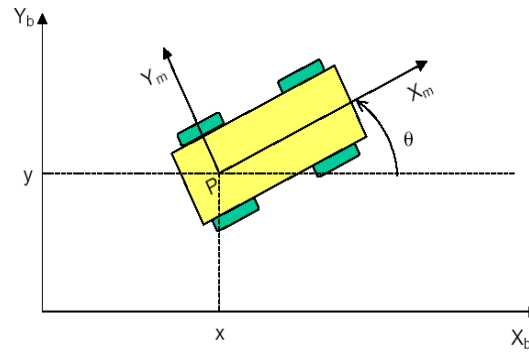

Figure Q3[c]
- [c] Figure Q3[c] shows the differential type wheeled mobile robot. Develop the kinematic model for world frame and robot frame.